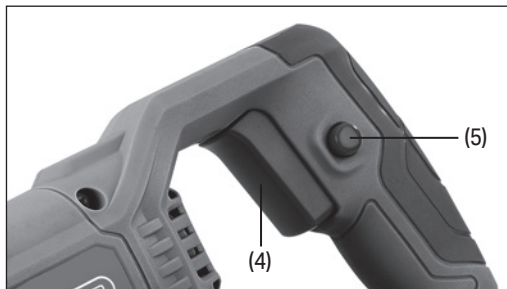

Fig.4
7.1 ON/OFF Trigger Switch & Variable Stroke Rate Control (Fig.4)